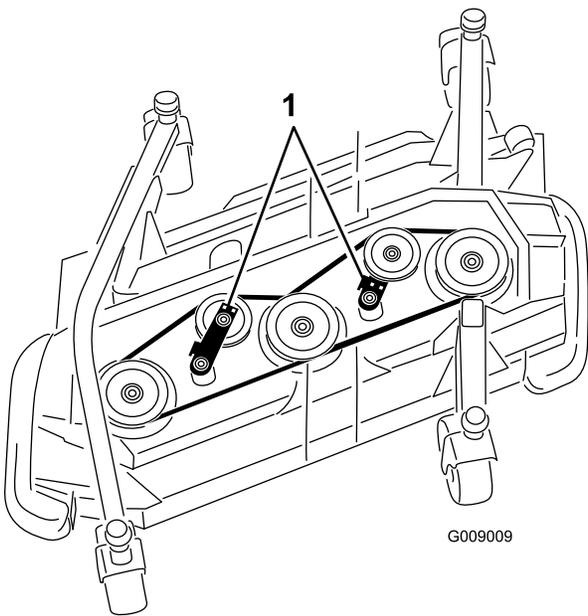

Figure 130
5. Using a ratchet wrench or similar tool, move the idler pulleys away from the drive belt to release the belt tension and allow the belt to slip off the pulleys (Figure 130).